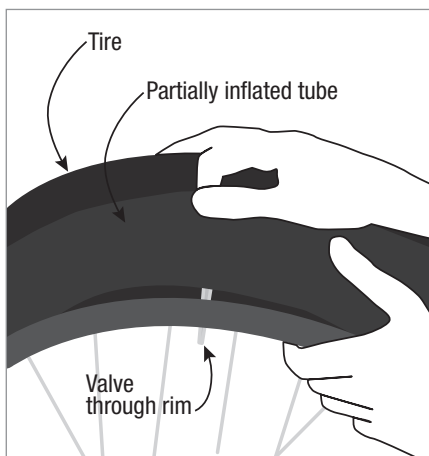

Figure 2
- Slide the tube valve stem through the hole on the rim (Fig.2). If the valve stem has a lock nut, snug it to the rim but do not tighten fully. Then push the tube inside the tire.